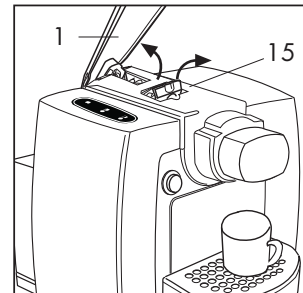

Fig. 9
- Lift the control lever backwards (up to the stop point) (1) and make sure that the pods ejection hatch (15) is open. **(Fig.9)**
(Fig.9)